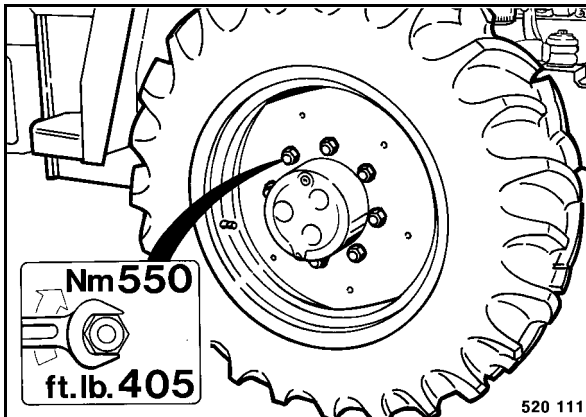

Fig. 170
- Tighten the wheel nuts (Fig. 170) in a cross-type pattern.